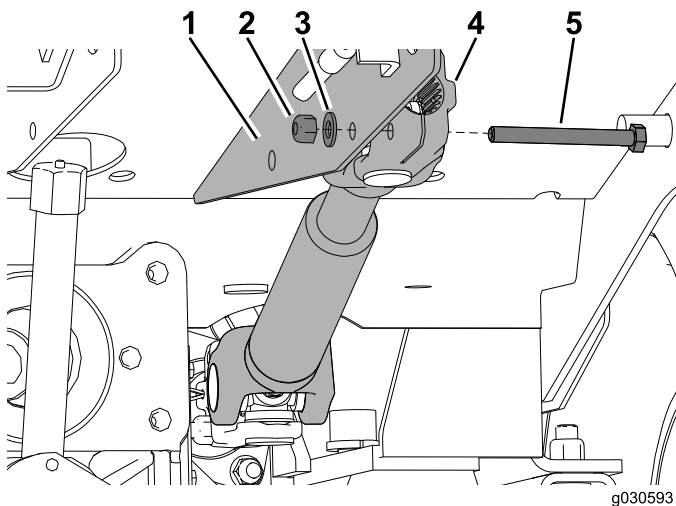

**Figure 20**
2. Remove the hardware used to secure the PTO guard to the gearbox (Figure 20).